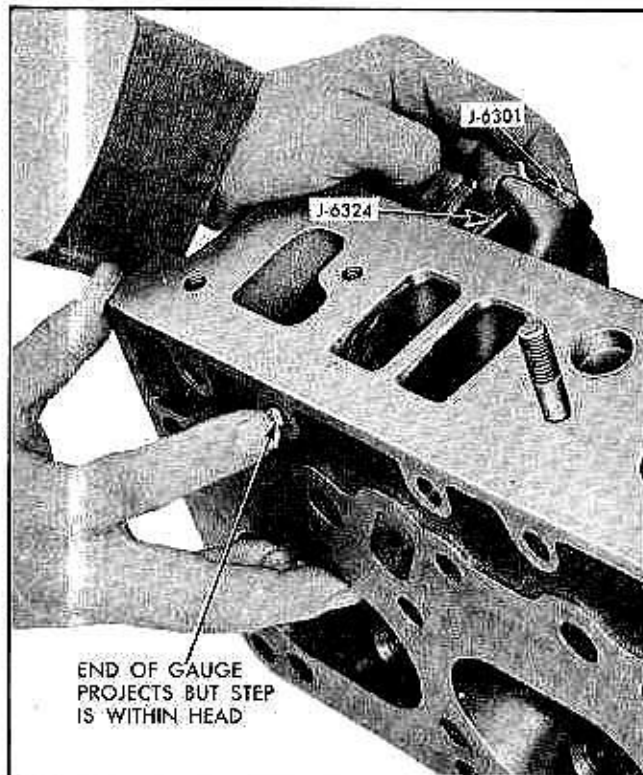

Fig. 6-45 Checking Length of Valve Stem
a. Position rocker arm on stud and hold in place using Rocker Arm Stud Installer J-6301. Slip valve into place and hold it against valve seat. While holding rocker arm and valve in position securely, insert Valve Train Gauge J-6324 through push rod hole and seat snugly in push rod seat of rocker arm (Fig. 6-45). With all parts seated, step end of gauge should be at least flush with gasket face of head, but should not project past the step on the gauge.